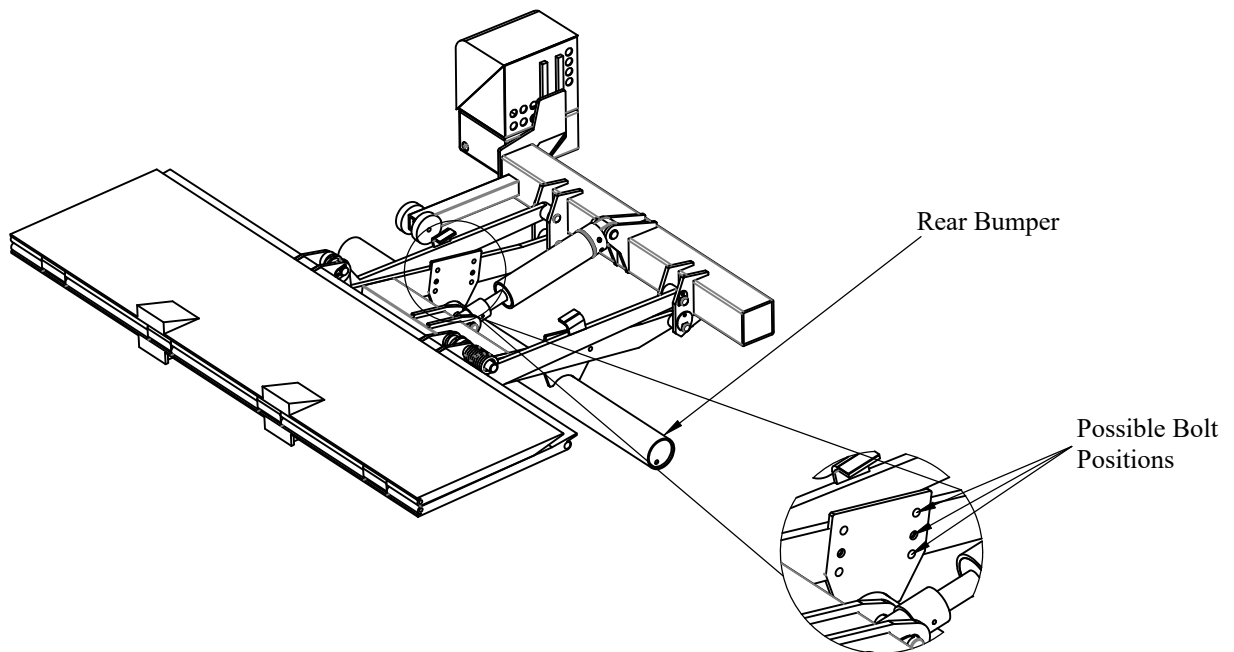

Figure 28: Rear Bumper Installation.
2. **Use** the (4) provided 1/2"x1-1/2" bolts and 1/2" nuts to bolt the bumper in the selected position (Figure 28).